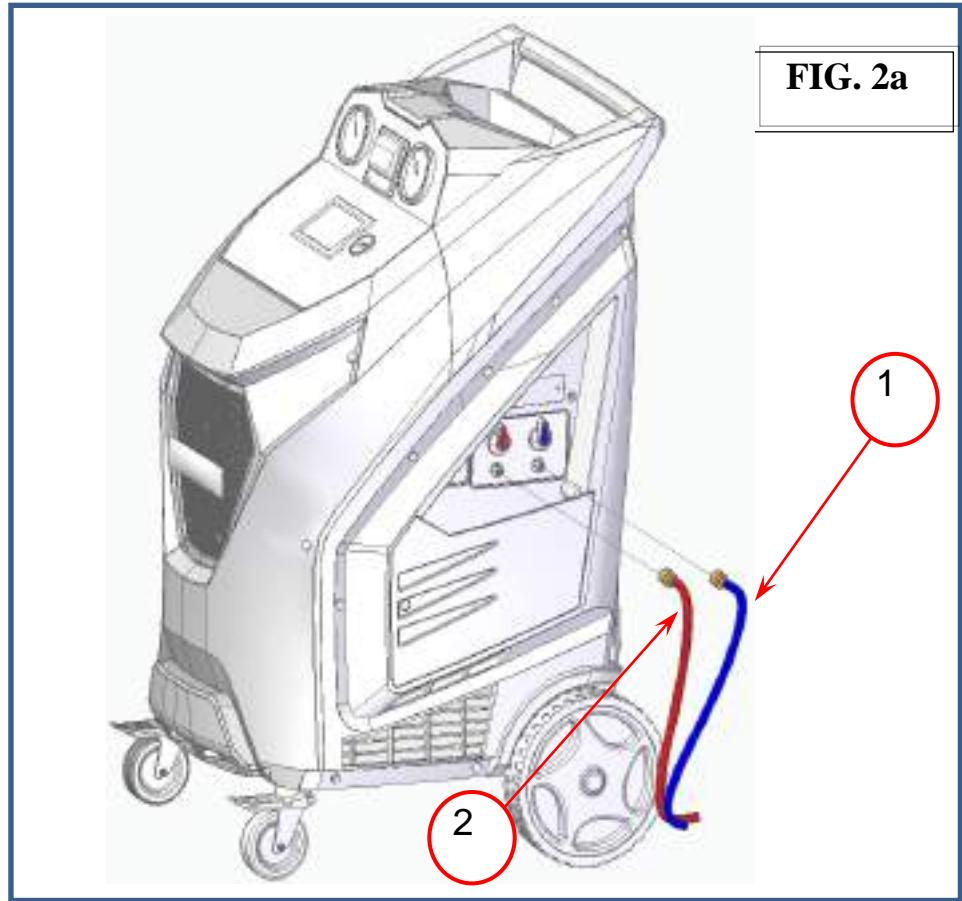

FIG. 2a
Referring to Figure 2a, mount the hose (ref.1 Fig 2a) with the BLUE quick-connect coupling on the male threaded connector indicated by the BLUE LOW PRESSURE symbol and the RED (ref.2 Fig 2a) quick-connect coupling on the male threaded connector indicated by the RED HIGH PRESSURE symbol.